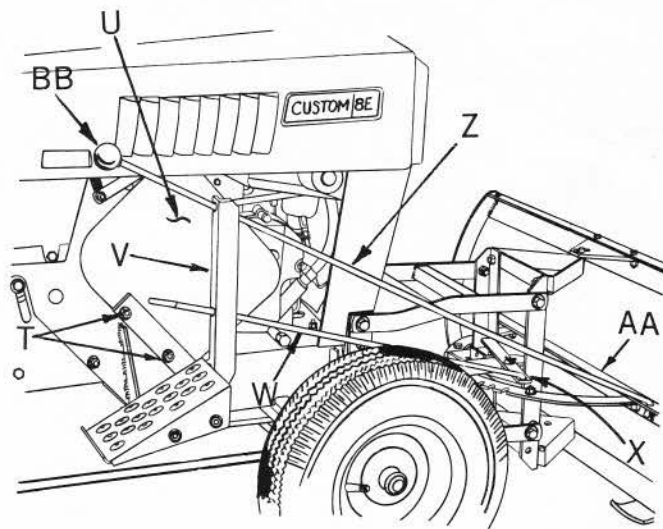

FIG. 5
12. Refer to Figure 5. Remove two bolts (T) from belt guard (U) and tractor, and assemble rod support and bracket (V) to belt guard (U) and tractor with two bolts (T) removed above. Tighten nuts securely.
13. Refer to Figure 5. Insert lock rod (W) into lower hole of rod support (V) with short bent end forward. Hook short bent end of lock rod (W) into hole of pivot arm weldment (X), and secure with 1/8 x 3/4 cotter pin found in plastic bag. Spread cotter pin.
14. Refer to Figure 5. Insert blade rod (Z) (short bent end forward) through upper hole in rod support (V), and attach short bent end of rod in hole of center rail (AA) of blade and secure with 1/8 x 3/4 cotter pin found in plastic bag. Spread cotter pin.
15. Refer to Figure 5. Screw knob (BB) found in plastic bag on rear (threaded) end of blade rod (Z) as shown.
To angle the bulldozer blade, push lock rod (W), Fig. 5 forward with foot which releases the latch and push or pull blade rod (Z), Fig 5, desired to blade position. Remove foot from lock rod to lock blade in proper position. There are seven blade positions: Straight across, three distinct angles to right, and three to the left.